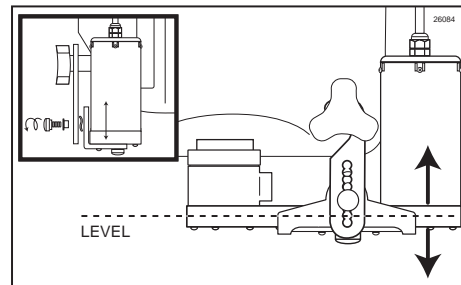

Figure 140
5. Use the bracket thumb screw to adjust the bracket vertically so that it supports the Injector Assembly in a level position. (See Figure 140.)